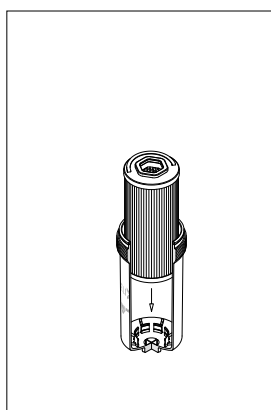
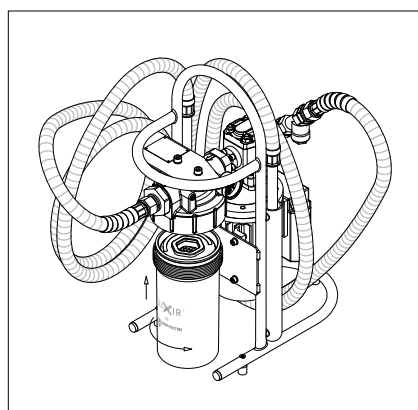

fig. 16
fig. 18
- (Fig. 16) Push the filter element into the bowl until the end cap hooks onto the internal teeth
- (Fig. 18) Fit the filter element on the tap and screw the bowl (please see fig. 16 to 18)